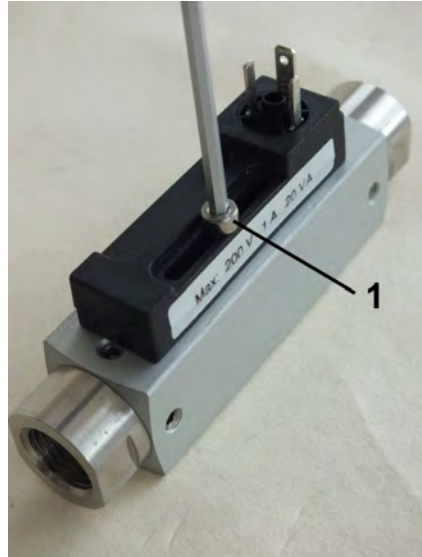

Fig. 54: Remove set screw
3. ➔ Using a hex screwdriver (Fig. 54/1) remove the set screw of the switch contact
7. ➤ Insert the set screw (Fig. 54/1) and tighten it slightly so that the switch contact can still move easily
9. ➤ Tighten the set screw (Fig. 54/1), observing the proper tightening torque ( Chapter 11.1 "Tightening torque" on page 67)